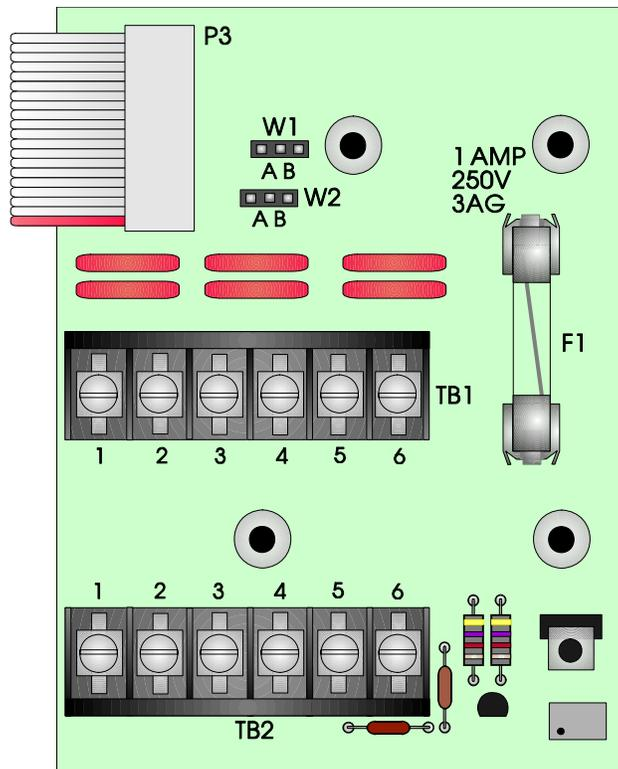

Figure 4-1 - Field Wiring Terminals
Two terminal blocks (TB1 & TB2) are located on the termination Board as shown in Figure 4-1. Each of these blocks contain six (6) terminal screws for field wiring connections. TB1 contains terminals TB1-1 through TB1-6, while TB2 contains TB2-1 through TB2-6.